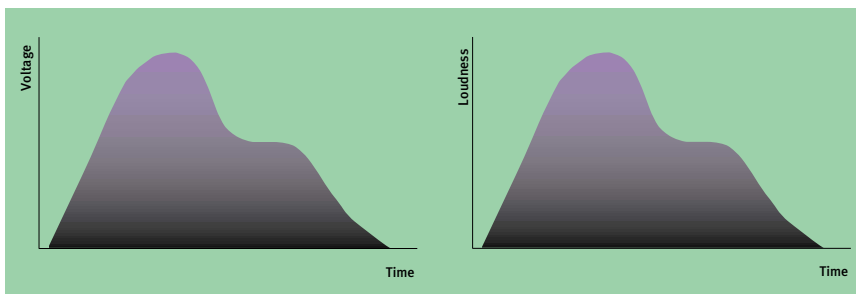

Figure 3: A voltage control becomes a loudness contour.
▶ you have defined the loudness of the sound at any given time using the CV. The shapes in Figure 3 are called Envelopes, so one of the devices that you can use to control our amplifier is, not surprisingly, called an Envelope Generator. EGs may be basic or complex, but (if they are not themselves modified in some way by another signal) they all share one attribute: each time they are initiated (or 'triggered') they provide a consistent contour, both in terms of the CVs produced and the times taken for them to change.